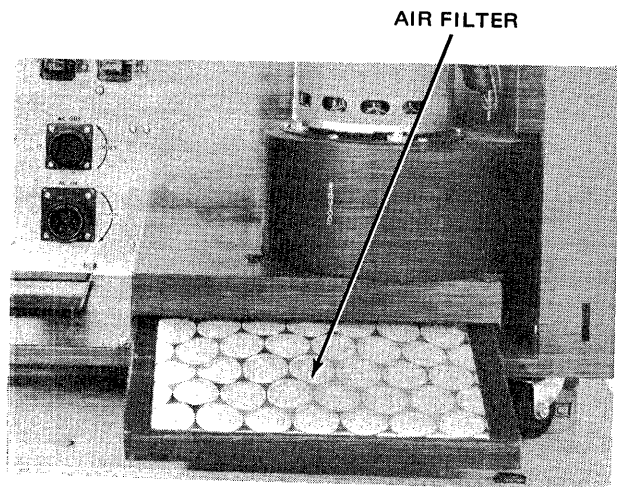

Figure 4-8. Input Air Filter Removal/Installation
- a. Remove input air filter and replace (see Figure 4-8).